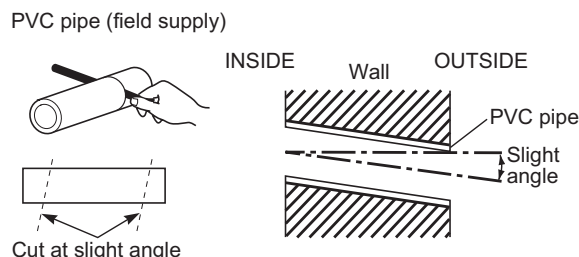

Fig. 2-68
- (9) Measure the thickness of the wall from the inside to the outside and cut PVC pipe at a slight angle to fit. Insert the PVC pipe in the wall. (Fig. 2-68)